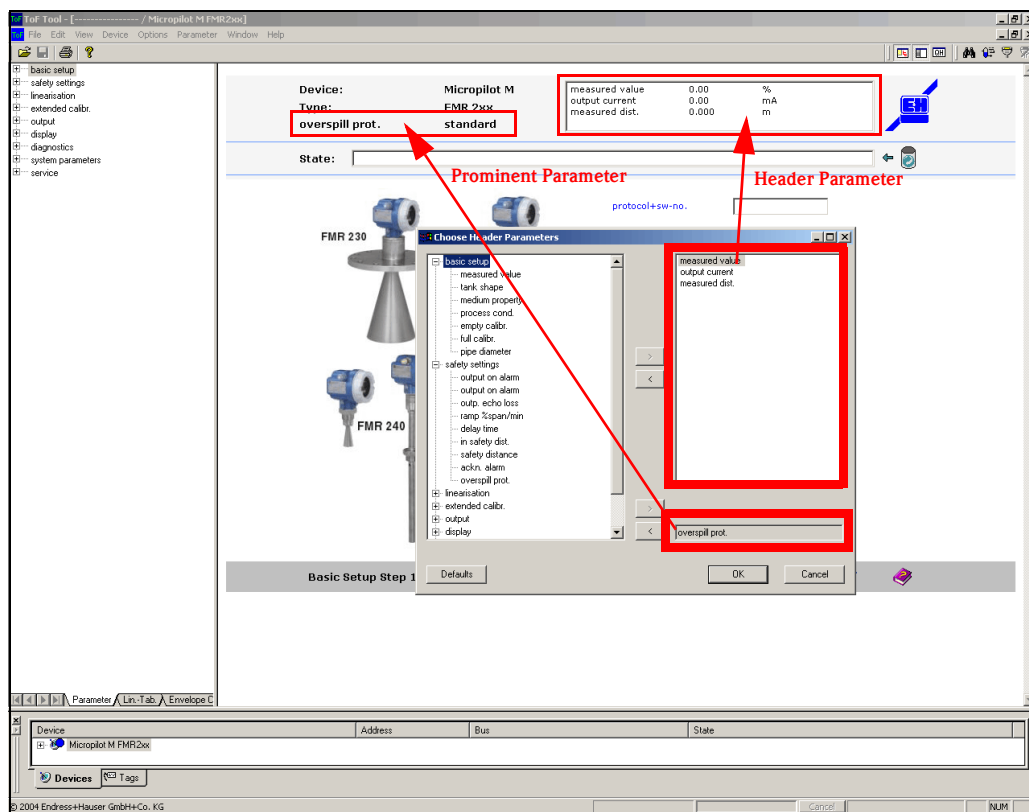

Fig. 37: Device parameter display in the headline
3. The parameters listed in the picklist are permanently displayed in the "Header area" of the parameterisation view (see Fig. 37). This setting is saved in the ToF Tool for every device type (e.g. FMR, FMU, FMP, etc.). Each time you start the program, this information is then available for the device selected for configuration from the device list.